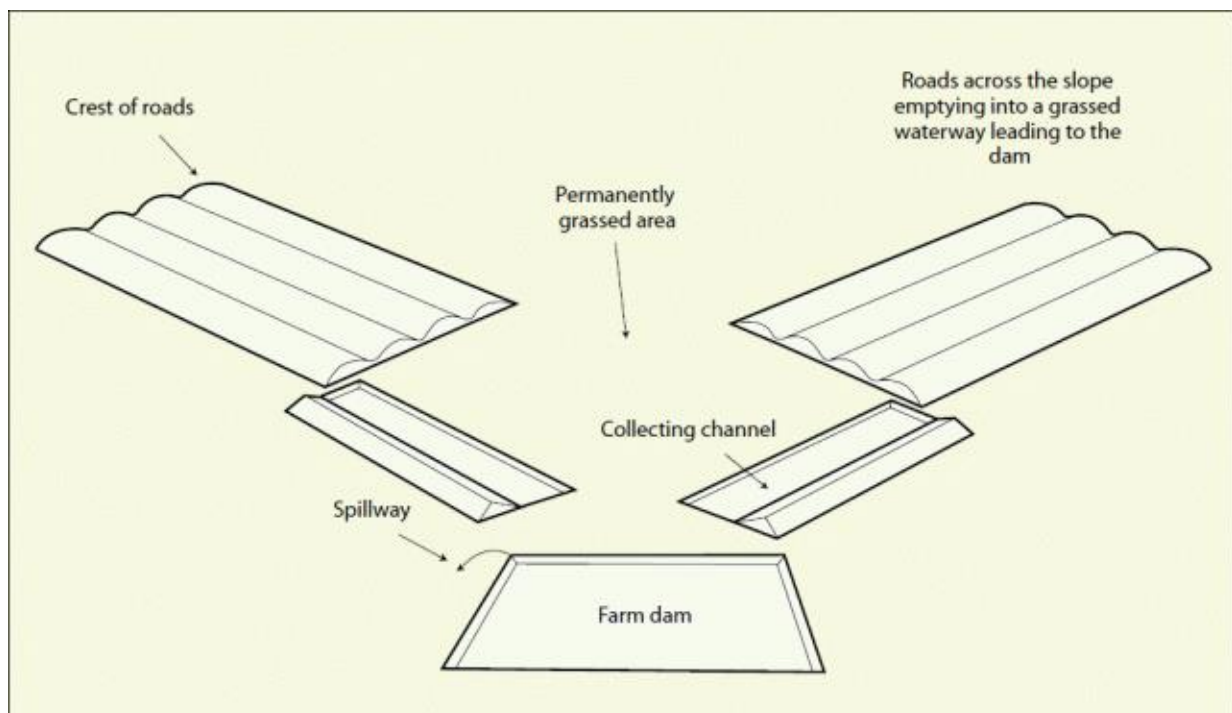

Figure 3: Layout for ground slopes greater than 1:80 where a stable waterway is present.
3. On moderately to steeply sloping ground with slopes greater than 1:80 and where a stable waterway exists. Roads are constructed across the slope and empty into a grassed waterway leading to the dam (Figure 3). For slopes steeper than 1:30 (3.5%), a grassed waterway must be used because a collecting channel of the required grade would meet road channels at an angle too acute to be conveniently built.